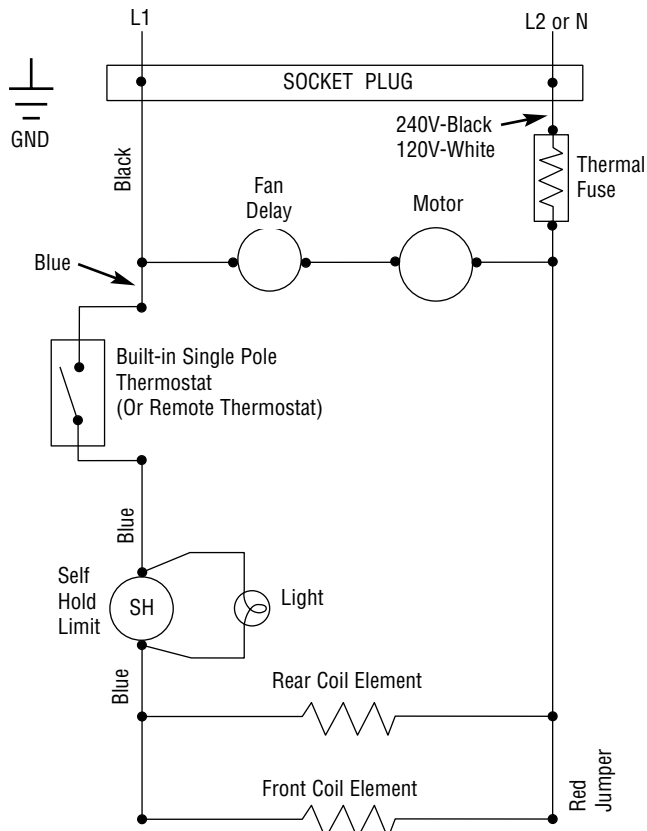

Figure 2 - Wiring With Internal Heater Mounted Thermostat (For lower wattage rating, remove red jumper)
5. **FOR BUILT-IN THERMOSTAT, WIRE HEATER AS SHOWN IN FIGURE 2.** Run field wiring from circuit breaker box to heater. Connect to the two black pigtail leads for 240/208V model or to black and white pigtail lead for 120V model with wirenuts (provided). Remove the wirenuts securing two blue leads. Connect the blue leads with wirenuts (provided) to thermostat lead wires.